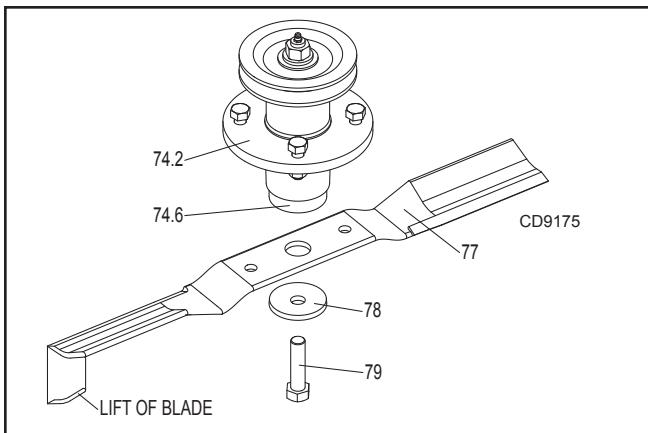

Figure 19. Blade and Spindle Assembly
- Remove bolt (79), Figure 19, which has right hand threads.
- Remove belville washers (78) and blade (77).
**NOTICE:** When installing blade, the lift of the blade must be toward the spindle blade housing as shown in Figure 19. Torque bolt (79) into shaft assembly to 100 lbs-ft.
- Place Belleville washer (78) over blade and insert blade bolt (79). Torque blade bolt to 100 lbs-ft.